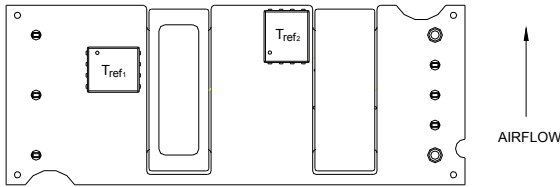
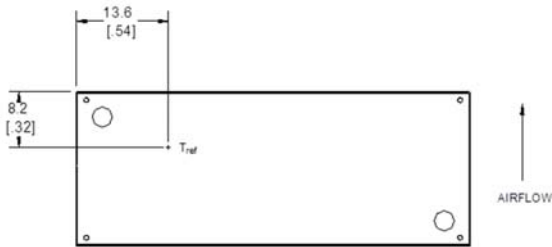

Figure 13. T_{ref} Temperature Measurement Locations for Open Frame Module.
Figure 14. T_{ref} Temperature Measurement Location for Module with Heatplate.
To provide protection under certain fault conditions, the unit is equipped with a thermal shutdown circuit. The unit will shutdown if the thermal reference point, T_{ref} , exceeds 135°C (Figure 13, typical) or 120°C (Figure 14, typical), but the thermal shutdown is not intended as a guarantee that the unit will survive temperatures beyond its rating. The module will automatically restart upon cool-down to a safe temperature.
The thermal reference points, T_{ref1} and T_{ref2} , used in the specifications for open frame modules are shown in Figure 13. For reliable operation these temperatures should not exceed 122° and 123°C respectively.
The thermal reference point, T_{ref} , used in the specifications for modules with heatplate is shown in Figure 14. For reliable operation this temperature should not exceed 100°C.